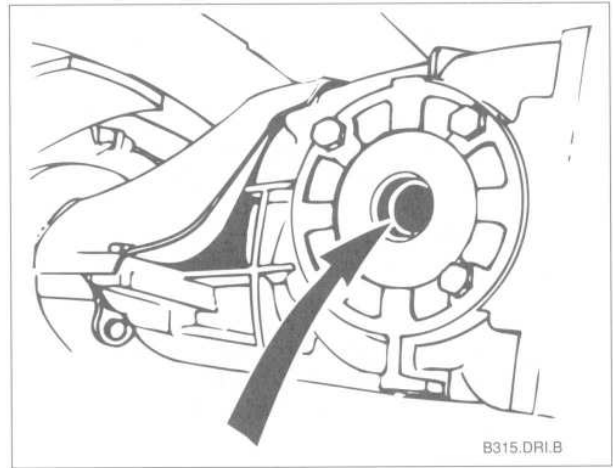

Fig. 4. Drive flange snap ring (arrow) to be removed from final drive housing.
3. Remove wire (snap) ring from final drive opening. See Fig. 4.